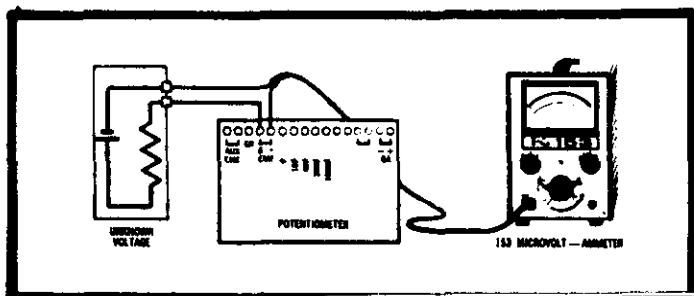

FIGURE 6. Null Circuit Using Model 153 and Leeds and Northrup K3 Potentiometer.
b. Figure 6 shows a typical null circuit using the Leeds and Northrup K3 potentiometer. The Model 153 is connected between the unknown and the potentiometer rather than across the null detector terminals because shunts in the potentiometer reduce power sensitivity.